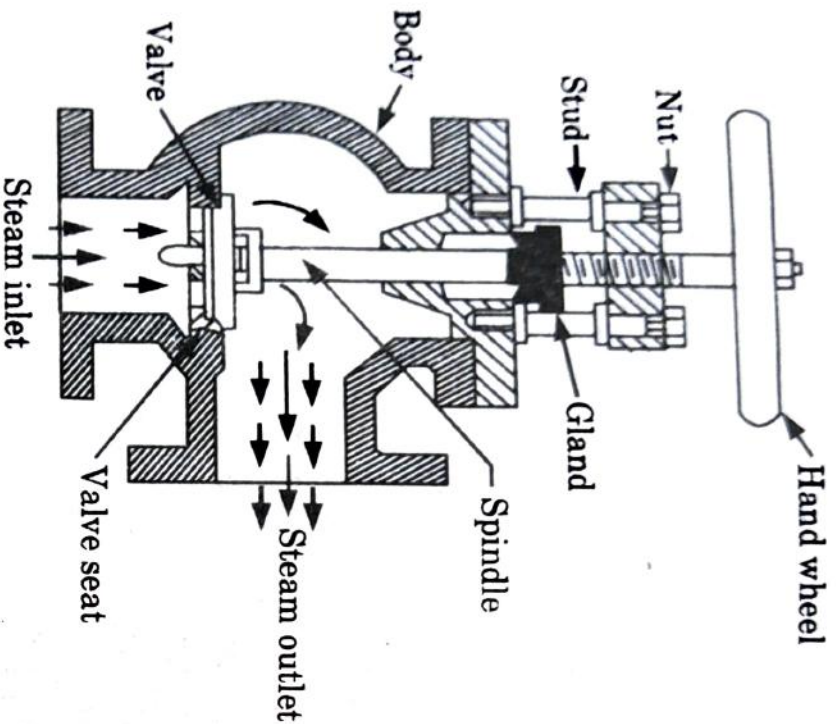

Fig. 3.5.6. Stop valve.
1. It regulates the flow of steam from the boiler as shown in Fig. 3.5.6.